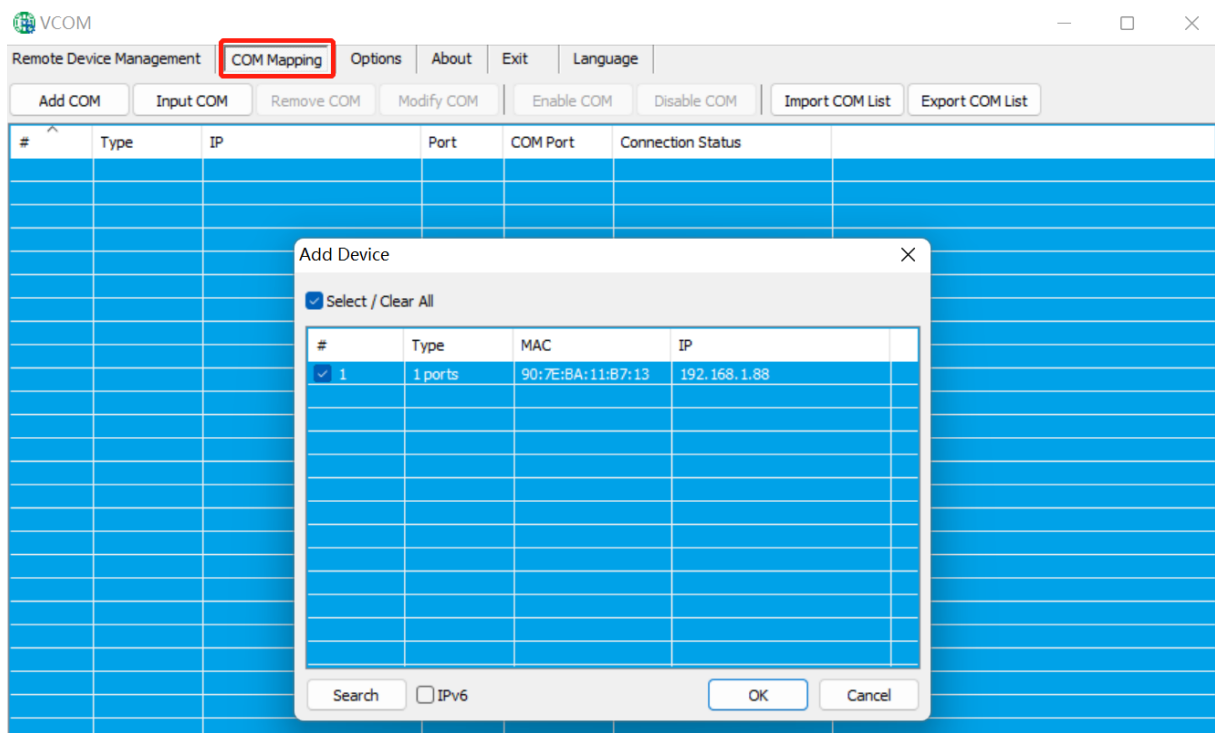

Figure 7
- In the software "VCOM", select COM Mapping(Communication Port Mapping) - Add Communication Port to bring up the "Add Device" window, Figure 7 below